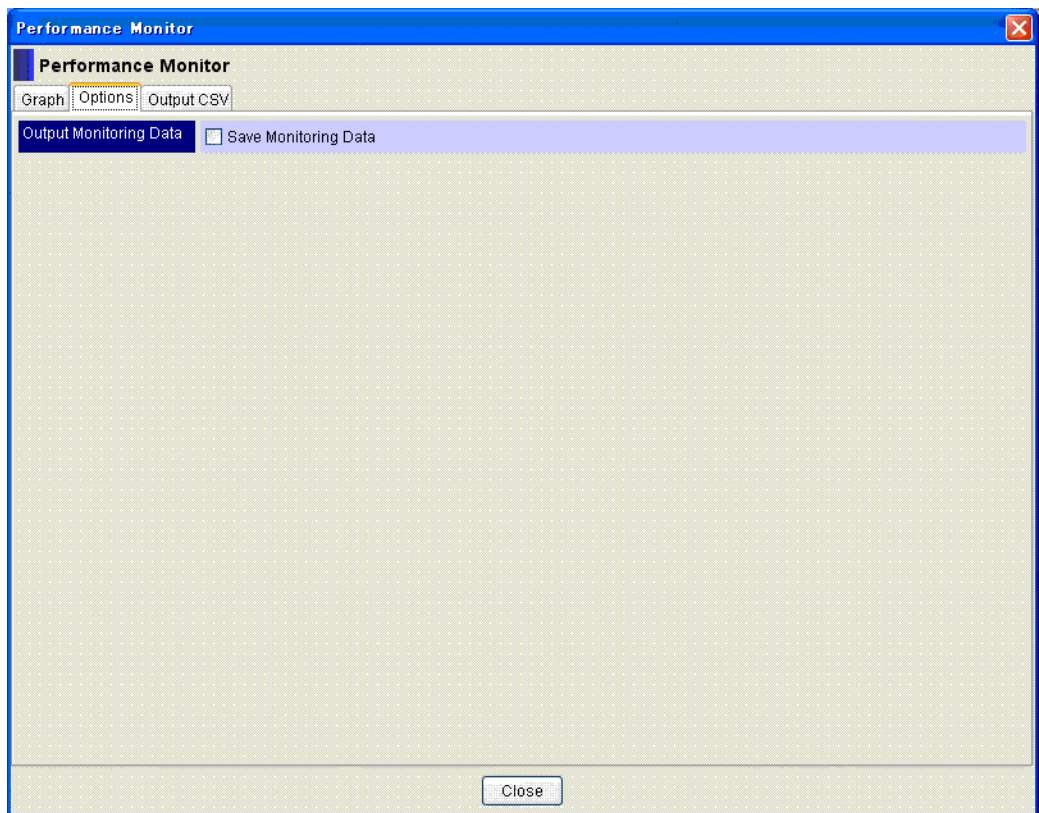

Figure 9-7: Performance Monitor - Save Monitoring Data
1. Click the Options tab. Performance Monitor displays the Options Window that contains two sub tabs: Output Monitoring Data and Save Monitoring Data as shown in Figure 9-7 on page 9-29.